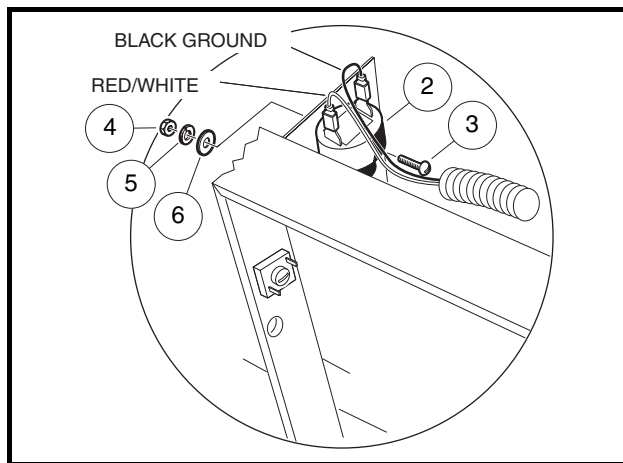

Figure 12-21 Front Reverse Warning Buzzer
4. Disconnect the wires from the reverse warning buzzer (2) (**Figure 12-21, Page 12-19**).
5. Remove the screw (3), nut (4), lockwasher (5) and flat washer (6) securing the buzzer to the vertical frame support.
1. Install the screw (3) through the buzzer (2) bracket tab and frame, secure with hardware, and tighten to 14 in-lb (1.6 N·m) (**Figure 12-21, Page 12-19**). See following **NOTE**.